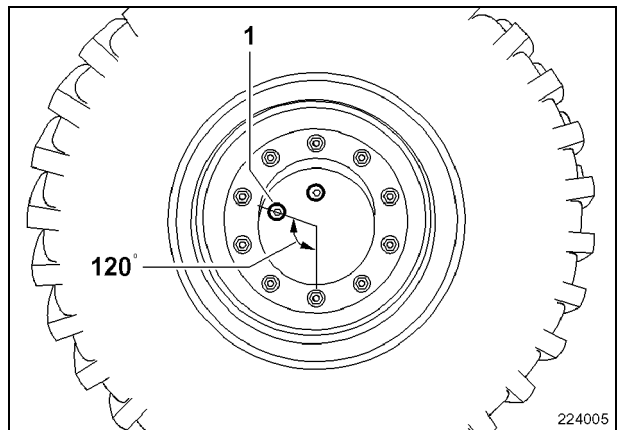

Fig. 1
- Screw out the measuring spindle (2) and screw the plug (1, Fig. 1) back in place.